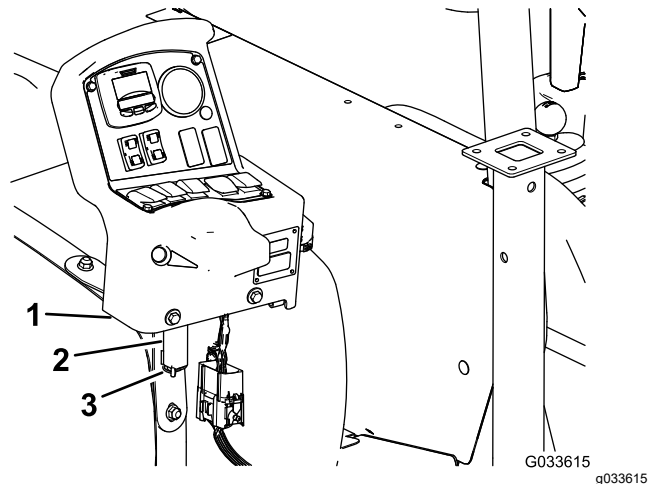

Figure 134
7. Remove the console from the console-mounting bracket at the dash of the machine and align the pivot pin on the control console with the storage bracket at the front tank strap (Figure 134); refer to Installing the Control Console to the Machine \(page 19\).
8. Assemble the console to the bracket and secure the pivot pin to the bracket with the hairpin (Figure 134).